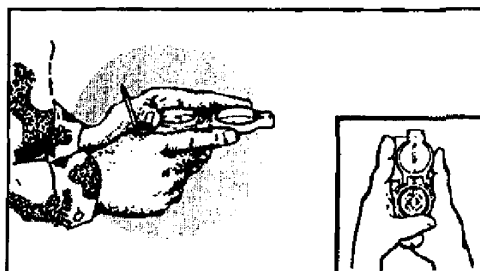

Figure C-22. Center-hold method
(2) Center-hold method (figure C-22). To use this method—